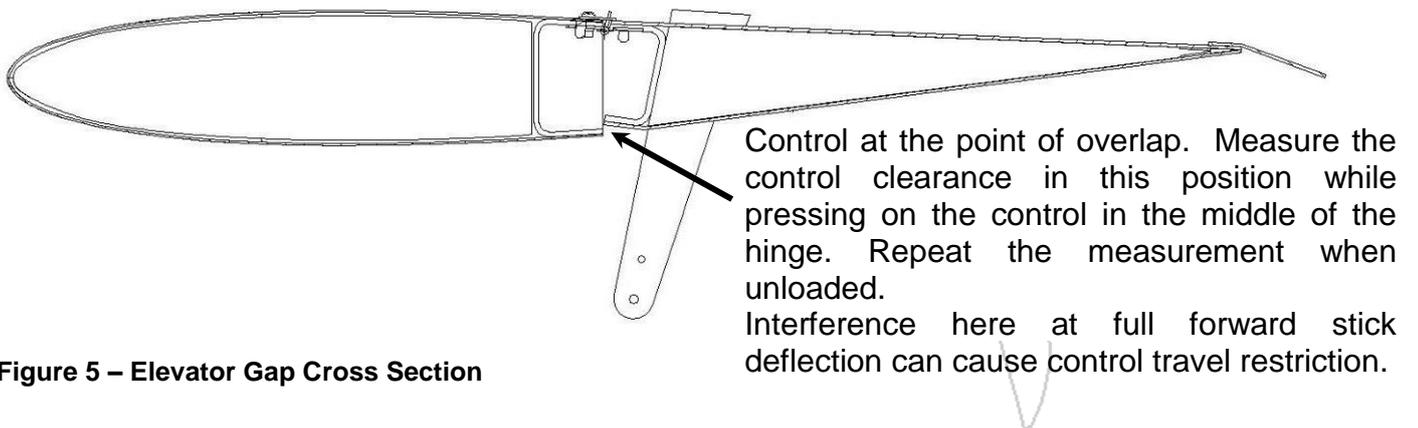

Figure 5 – Elevator Gap Cross Section
- Travel restriction normally presents at the opposite control travel extreme to the control's point of overlap – i.e. for the elevator shown above (Figure 5) full stick-forward deflection is the point most likely to exhibit a travel restriction as the lower surface of the elevator hits the aircraft.